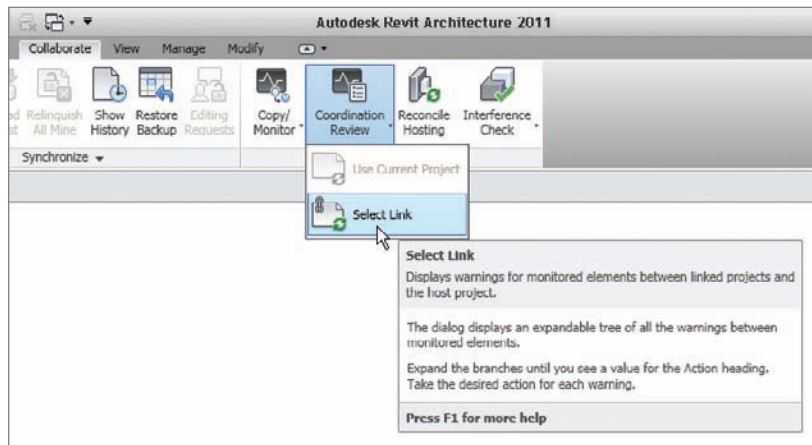

FIGURE 20.16 The Coordination Review button on the Coordinate panel of the Collaborate tab
20. To check and see if there are any more issues, click the Coordination Review > Select Link button on the Coordinate panel of the Collaborate tab, as shown in Figure 20.16.